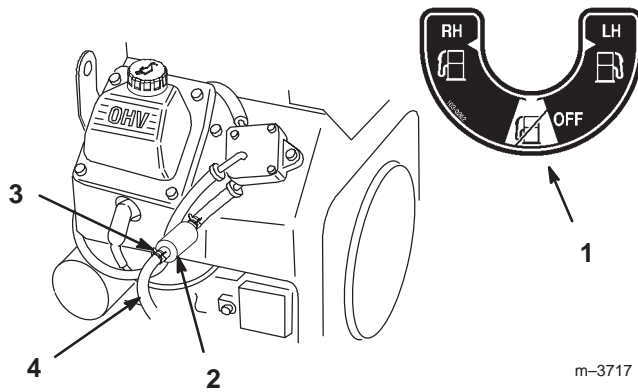

Figure 43
5. Install a new filter and move the hose clamps close to the filter (Fig. 43).
2. Close fuel shut-off valve (Fig. 43).
3. Loosen the hose clamp at the fuel filter and slide it up the fuel line away from the fuel filter (Fig. 43).
4. Pull the fuel line off fuel filter (Fig. 43). Open fuel shut-off valve and allow gasoline to drain into a gas can or drain pan.
5. Install the fuel line onto the fuel filter. Slide the hose clamp close to the fuel filter to secure the fuel line (Fig. 43).